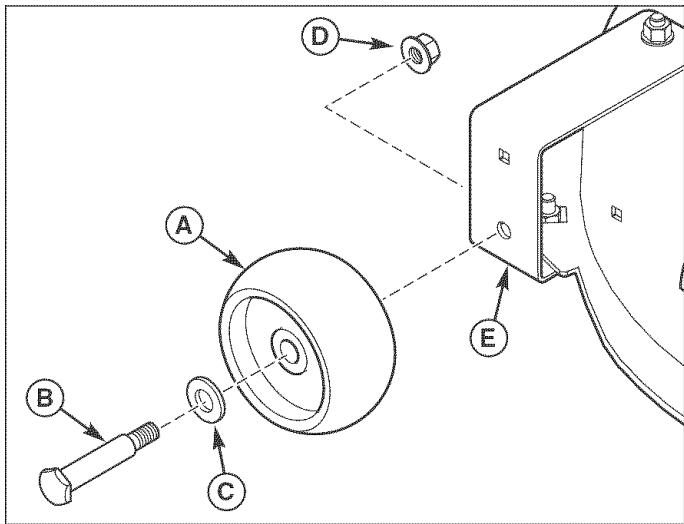

Figure 12. Guage Wheel Removal
1. Remove guage wheel (A, Figure 12) from guage wheel bracket (E) by removing wheel shoulder bolt (B), washer (C), and flange nut (D).